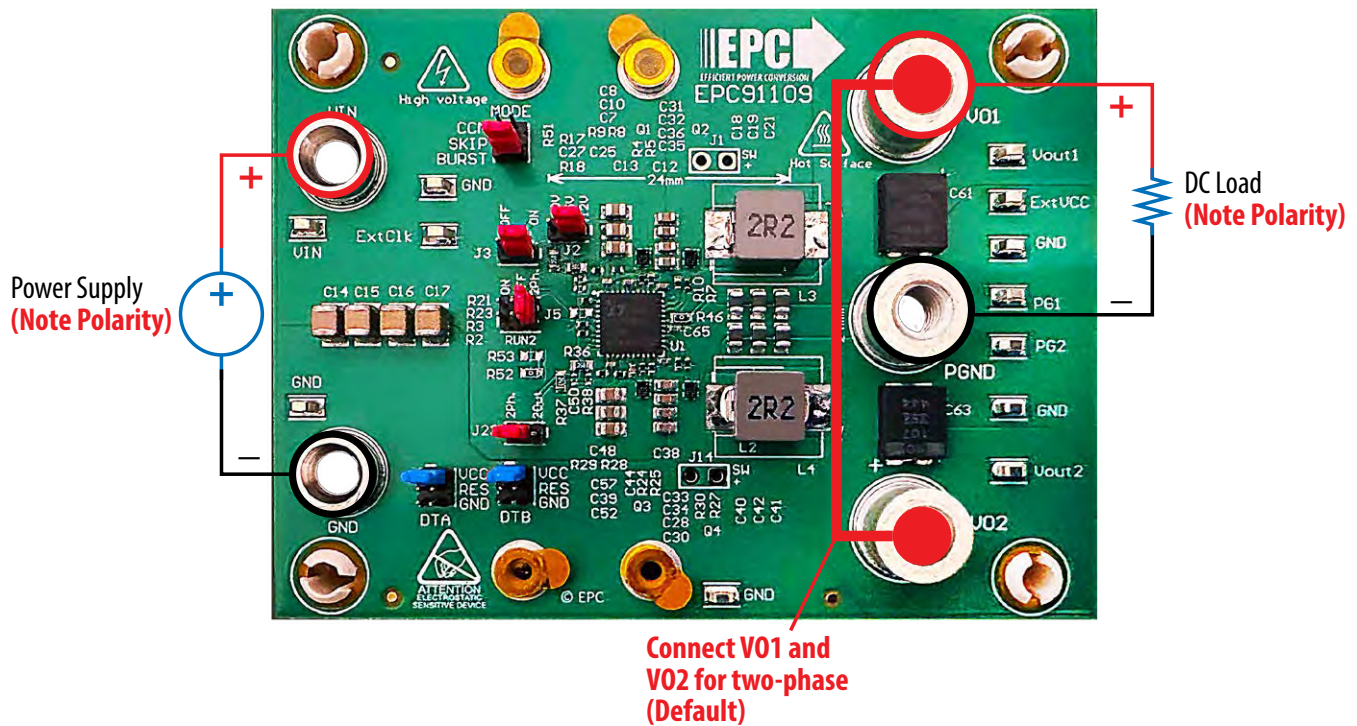

Figure 5: Power connections to the EPC91109 evaluation board
To operate the EPC91109, connect the input supply and the load as shown in figure 5. Note that V01 and V02 are not connected together on the board.
The EPC91109 evaluation board is easy to set up to evaluate the performance of the EPC2057 GaN FETs. The following steps detail the two-phase configuration. Refer to figures 5, 6, 7, 8, 9 & 10 for proper connections and measurement setup and follow the procedure below to operate the board:
1. With power off, connect the input power supply between VIN and GND. Pay careful attention to the polarity of the supply as shown in figure 5. A shunt can be inserted in series with the positive supply to measure the input current.
3. With power off, short VO1 and VO2 as in figure 5.
4. Connect a suitable load between VO1 and GND. Pay careful attention to the polarity as shown in figure 5.